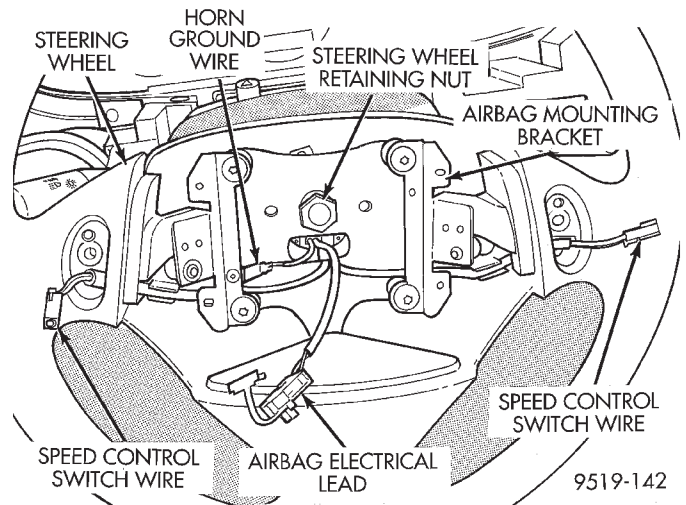

Fig. 9 Steering Wheel Wire Routing And Retaining Nut
(12) Remove the screws on rear of steering wheel attaching the speed control switches to the steering wheel. Then remove speed control switches from steering wheel.
(13) Disconnect the clockspring, horn ground wire from airbag mounting bracket in steering wheel (Fig. 9).
(14) Remove the steering wheel retaining nut (Fig. 9).
(11) Feed clockspring wiring leads through hole in steering wheel (Fig. 9). Position steering wheel on shaft of steering column assembly, making sure to fit flats on hub of steering wheel with formations on inside of clockspring.
(12) Connect the horn ground wire from the clockspring on the airbag mounting bracket in steering wheel (Fig. 9).
(13) Install steering wheel to steering column shaft retaining nut and tighten until steering wheel is fully installed on shaft. Tighten steering wheel retaining nut to a torque of 61 N·m (45 ft. lbs.).